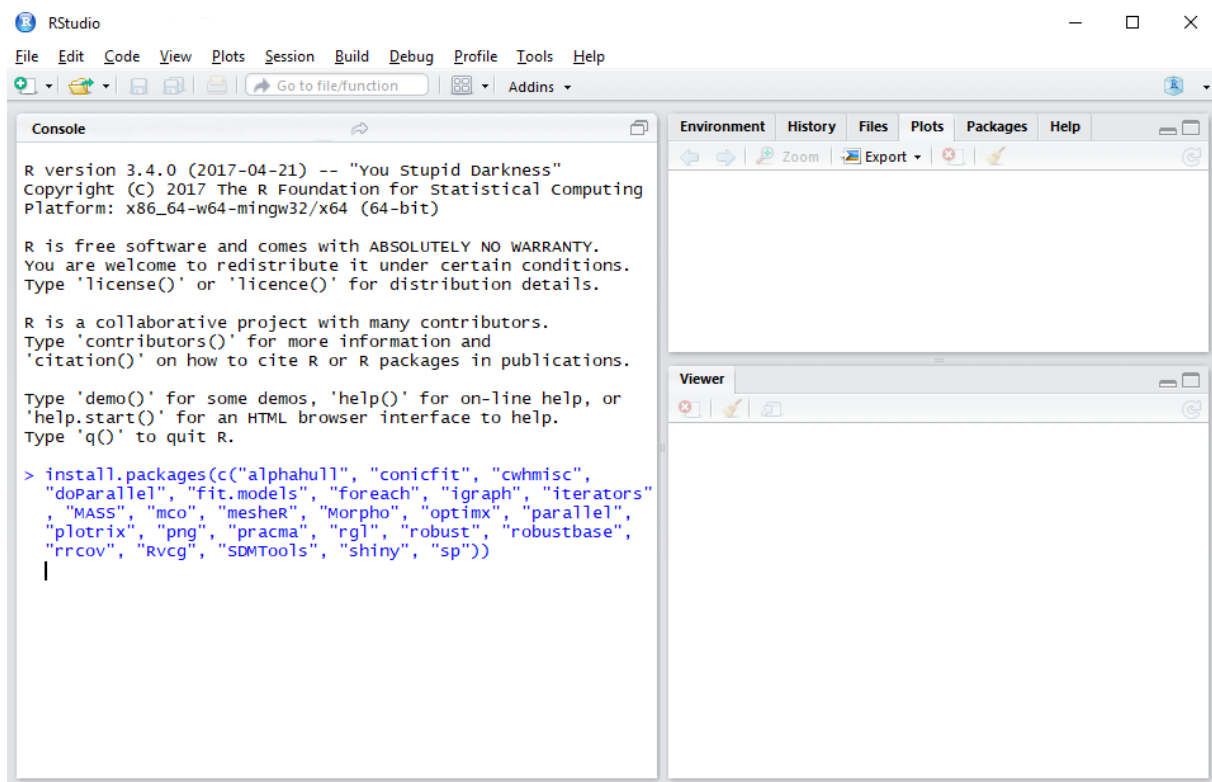

Fig. 1. Package installation with internet access.
a) If you have internet access, you can simply copy the following code lines to the R console and press enter (Fig. 1).